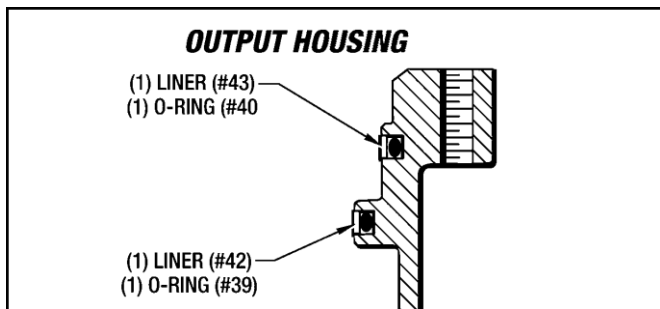

Figure 9.8 - Installing Piston Seals in Output Housing (#9)
1. Apply a little White Grease to both O-Rings (#40) & (#39) and both Liners (#43) & (#42). Install them into the Output Housing (#9) piston seal grooves as shown in Figure 9.8.